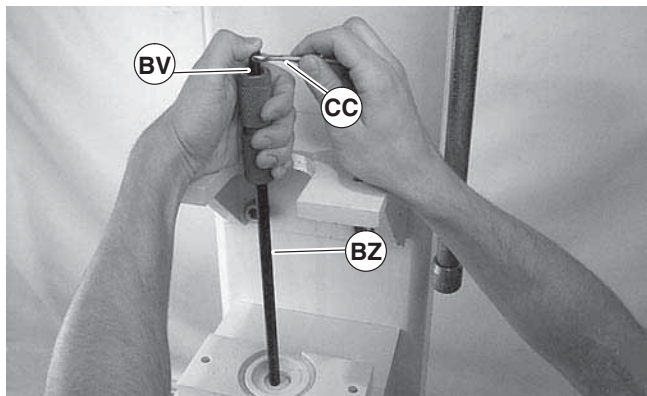

**Figure 58**
1. Insert bearing removal tool (Figure 58, item BV)(25-05, part of tool kit 4500) into the pulley (BW) until shoulder (BX) seats against bottom of bearing (BY).